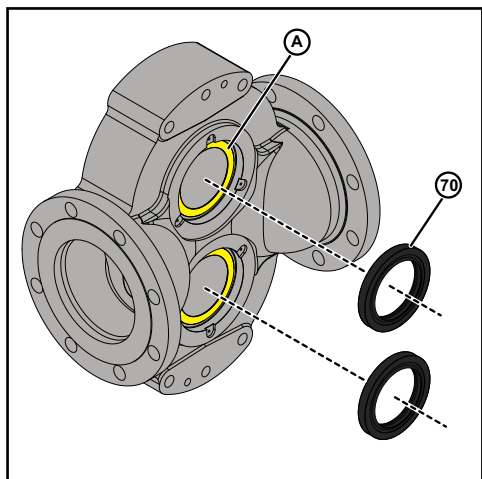

Figure 121 - Install Lip Seals
3. Apply a thin bead of silicone sealant (A) to the body, as shown in Figure 121.
4. Install the lip seals (70) into the pump body, as shown in Figure 121. Use the press tool to light press firmly and evenly into place.